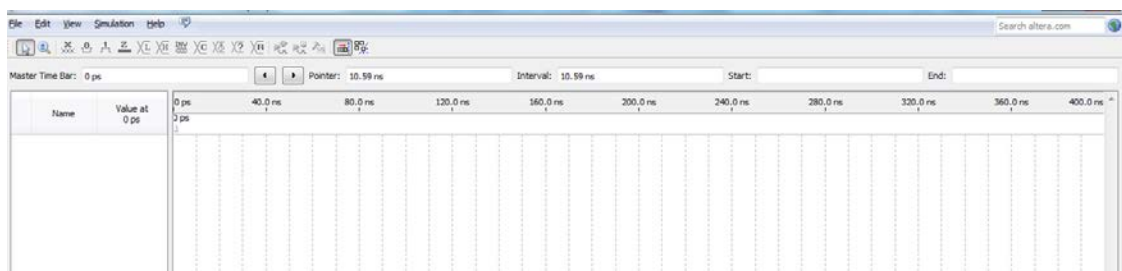

Fig. 13: The augmented waveform editor window
2) In the simulation window, set the desired simulation from 0 to 400 ns selecting **Edit>Set End Time** and entering **400 ns** in the dialog box that pops up. Then select **View>Fit in Window** to display the entire simulation range of 0 ns to 400 ns in the window shown in Figure 13.